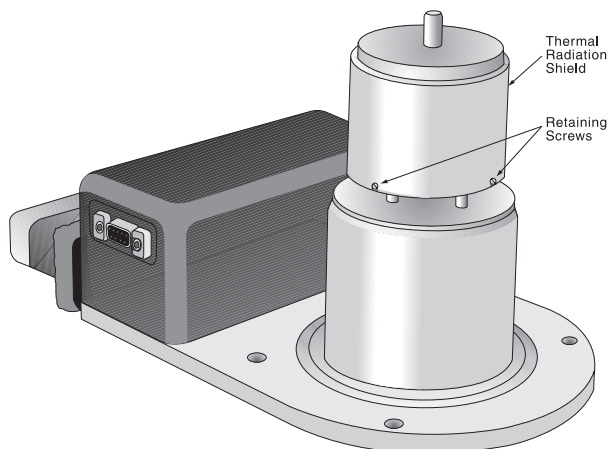

Figure 2.12
3. Loosen the three retaining screws on the thermal radiation shield and remove it by pulling it straight up. The slots in the shield allow easy removal (refer to Figure 2.12 for location of screws).